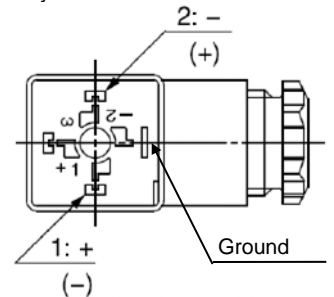

Figure 6. DIN terminal
- Internal connections are as shown in Figure.6. Make connections to the power supply accordingly.